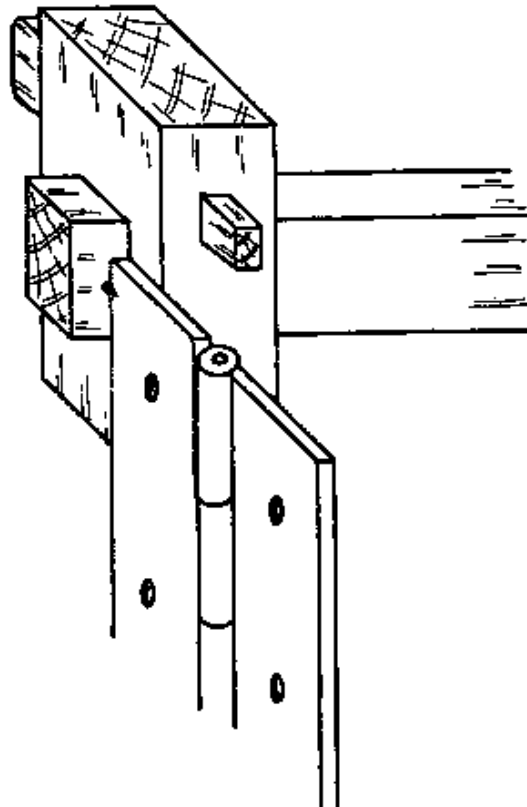

Fig. 3
e. Set the marking gauge to the thickness of one hinge leaf, and mark this on the face of the door (Fig. 3).